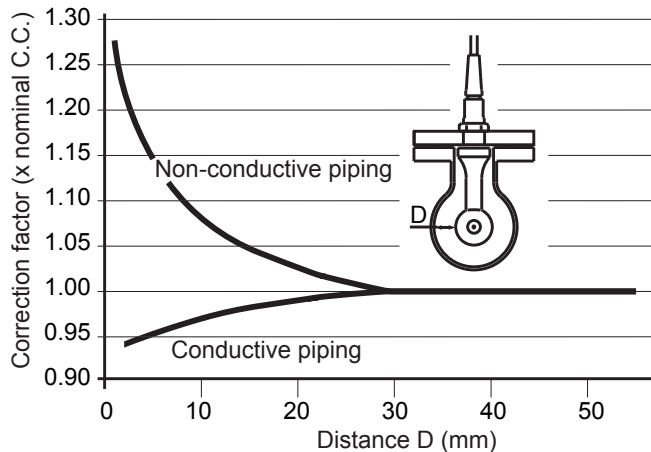

Figure 3.3 Relationship between the distance from the sensor to side wall and the cell constant
- If the sensor is installed in piping that is long in the axial direction with the cross section as shown in Figure 3.3, the cell constant of the sensor installed in the piping (reference data for a design center value of 1.88 cm^{-1}) is as shown in Figure 3.3. A value obtained by multiplying the value on the sensor cable marker and a value read from Figure 3.3 should be entered.